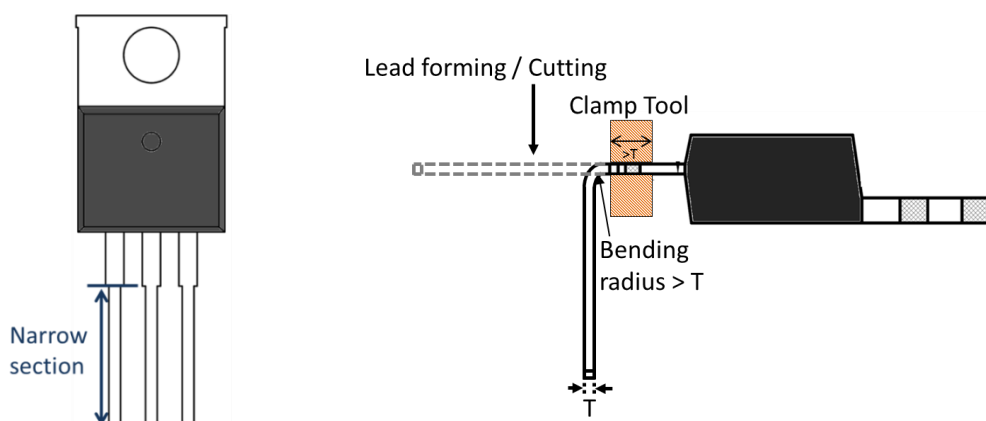

Fig 8. Lead forming and cutting
The TO-220 lead can be cut before mounting or after mounting and soldering. When cutting after soldering, the harsh mechanical mishandling during cutting that could cause external stress to damage solder joint, but generally does not harm component body. When cutting before mounting, the leads have to be fixed firmly by a clamp (see Fig 8).
- Clamp the leads firmly between the package body and the bend point. This way can relieve tensile stress during bending process and prevent component body damage; see Fig 8.
- TO-220 package show a wider leads near the package body. Only narrow section of the leads can be bent; see Fig 8.
- Bend radius should not less than the thickness of the lead; see Fig 8.
- The leads should not be bent at an angle of more than 90°; see Fig 8.